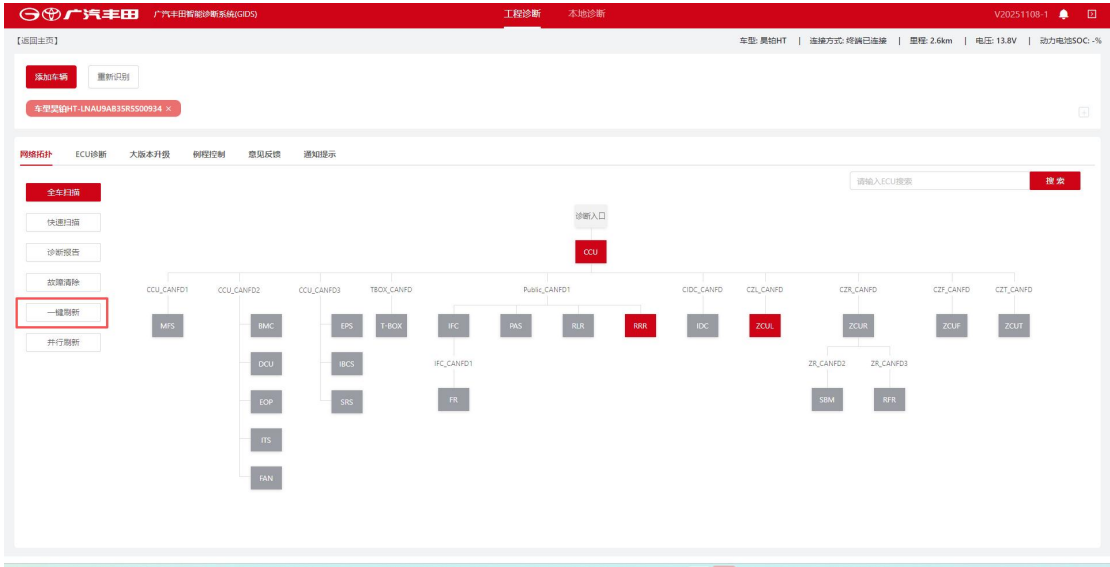
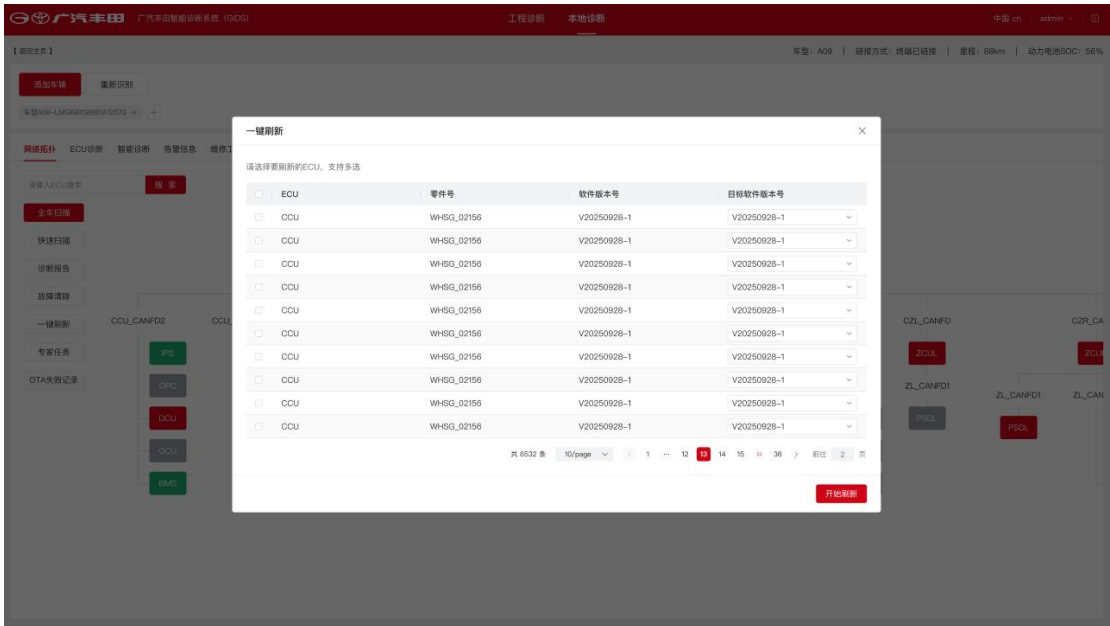

Figure 4-16 One-Click Refresh Button
Figure 4-17 ECU Refresh Package
1. After the user clicks "One-Click Refresh", as shown in Figure 4-16 One-Click Refresh Button, GIDS first obtains the ECU refresh package from the cloud. If the vehicle ECU software version is older than the latest cloud version, it is displayed on the interface, as shown in Figure 4-17 ECU Refresh Package.